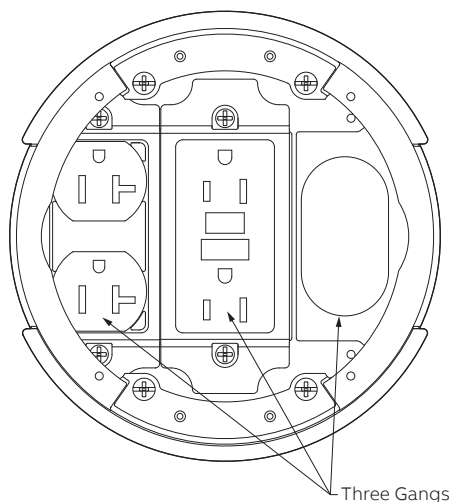

Figure 14
- 6.1 Poke-through **CANNOT** be rotated or removed after insertion into hole. Confirm correct orientation of devices before installing the floor box into the floor hole (See Figure 14).